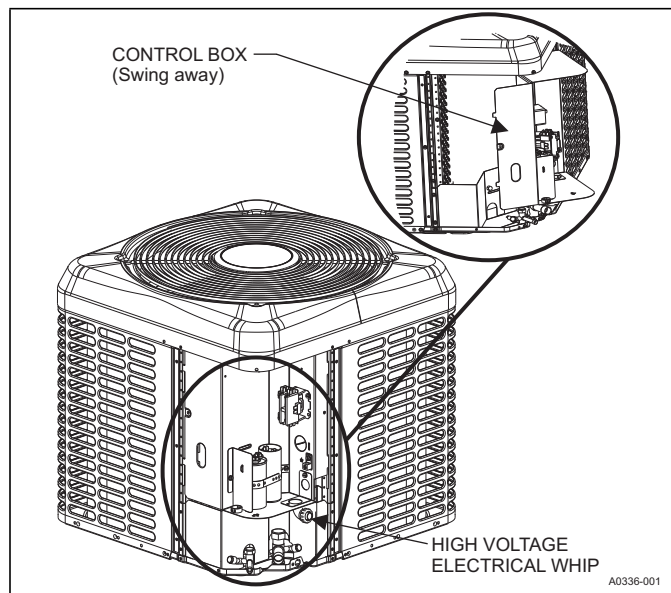

FIGURE 12: Outdoor Unit Swing Away Control Box
The control box can then swing open from the left by rotating on the right side pivots for easy service of refrigeration components. If no wiring is in or routed through the control box, it can be removed from the unit by lifting slightly, tilting the top hinge out, and lifting the bottom hinge out. During the installation, it is recommended to route the low voltage wiring for the thermostat along the unit whip to help facilitate the swing away feature of the control box. Refer to Figure 12.
4. Route wires from disconnect through power wiring exit provided and into the unit control box as shown in Figures 12, 13, 14 & 15.